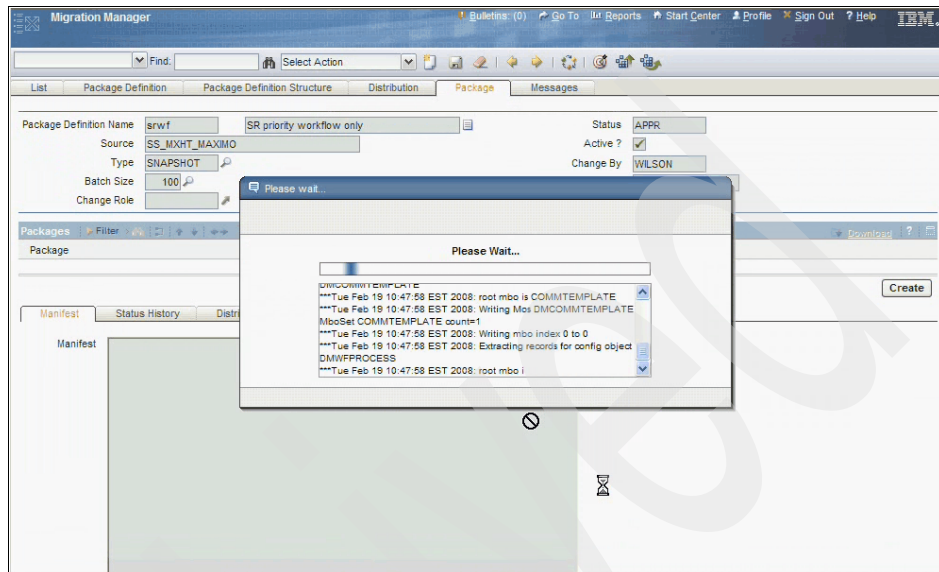

Figure 8-36 Package creation in progress
3. Click the **Continue** button in the dialog box to start package creation. A new dialog box is displayed, presenting the creation progress, as seen in Figure 8-36.